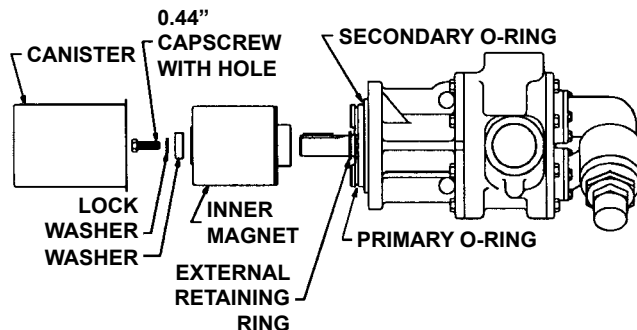

FIGURE 16
1. Inspect magnets for any steel objects attached to the magnets. Remove any foreign material. Place external retaining ring and key on pump shaft. Slide inner magnet assembly onto shaft so it butts against retaining ring. Install washer, lock washer and capscREW to secure magnet (See Figure 16). Insert a brass bar through a port between two rotor teeth and tighten capscREW.